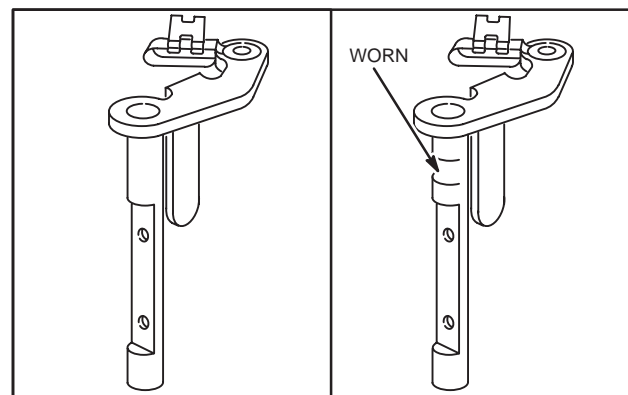

Fig. 14 – Checking Throttle Shaft Wear
2. Inspect throttle shaft and choke shaft for wear, Fig. 14.